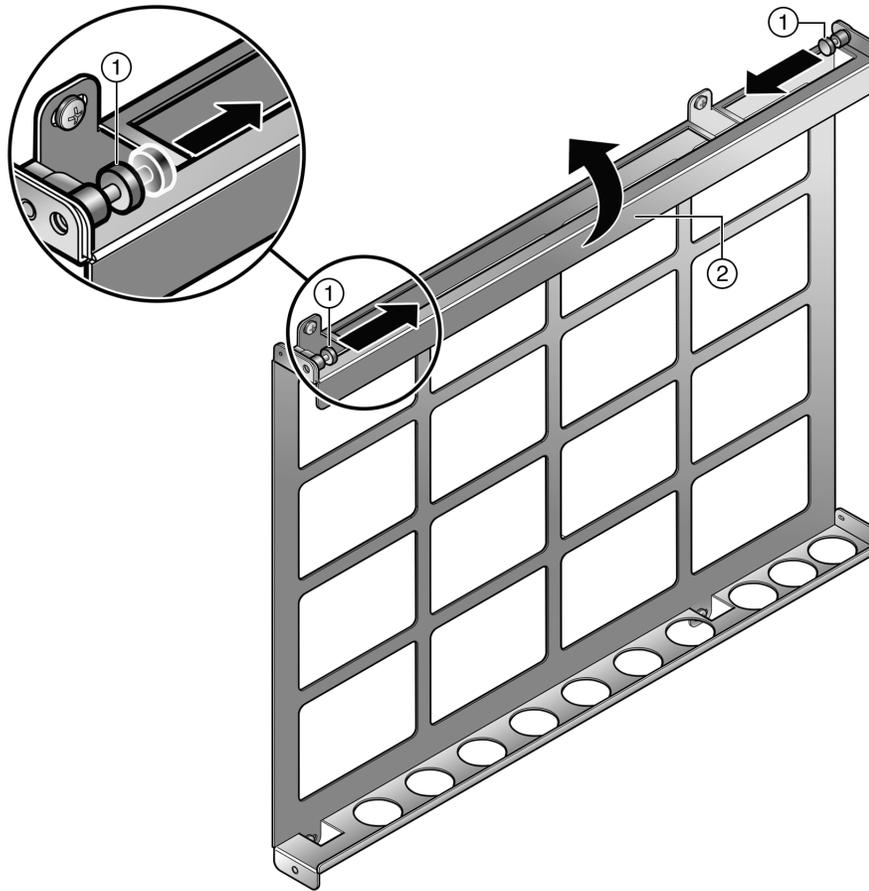

Figure 34: Opening the Gate
- 2 Open the gate on the top side of the mounting bracket. See Figure 34: Opening the Gate on page 74.